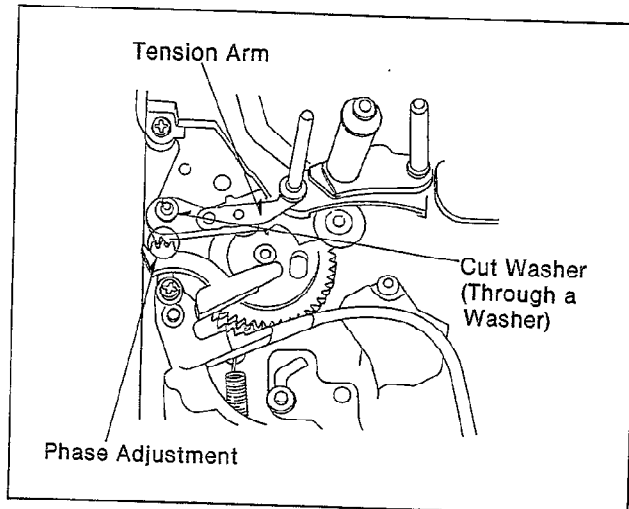

Fig. M37
- (2). Set the Tension Spring in the Lock Base Unit.
- (3). Insert the Washer and then install the Tension Arm so that make sure of phase between the Tension Arm and Tension Band as shown in Fig.M37.